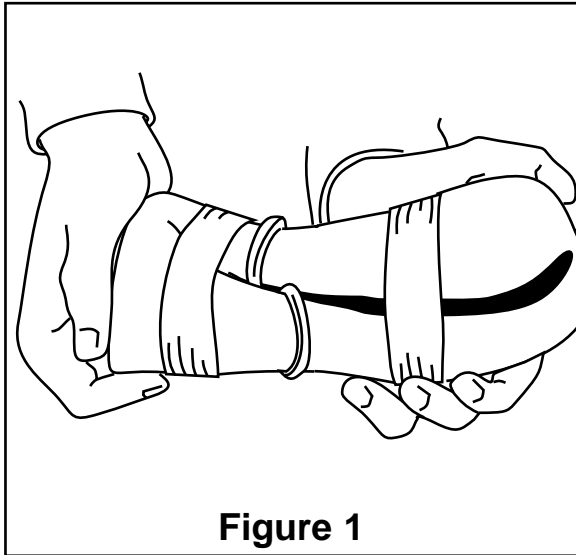

Figure 1
3. Remove plastic cap from barbed stem on end of air cylinder. Evacuate air from cylinder. Replace cap on stem to hold flat shape. Roll cylinder into a "hot dog bun" shape and retain shape by using string, tape or wire (Figure 1).